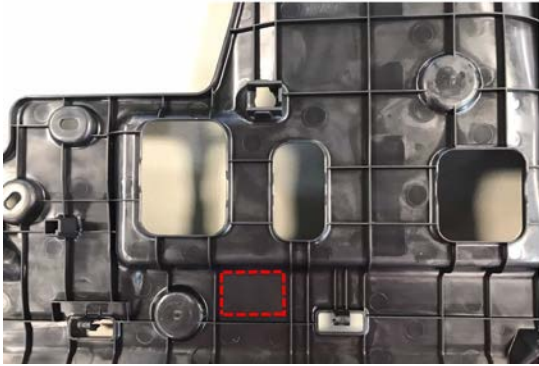

Figure 32
31. On the driver side instrument panel under cover sub-assembly, using a 7/16" drill bit, drill the hole for the foot-well light connector centered in the highlighted block shown in Figure 32.